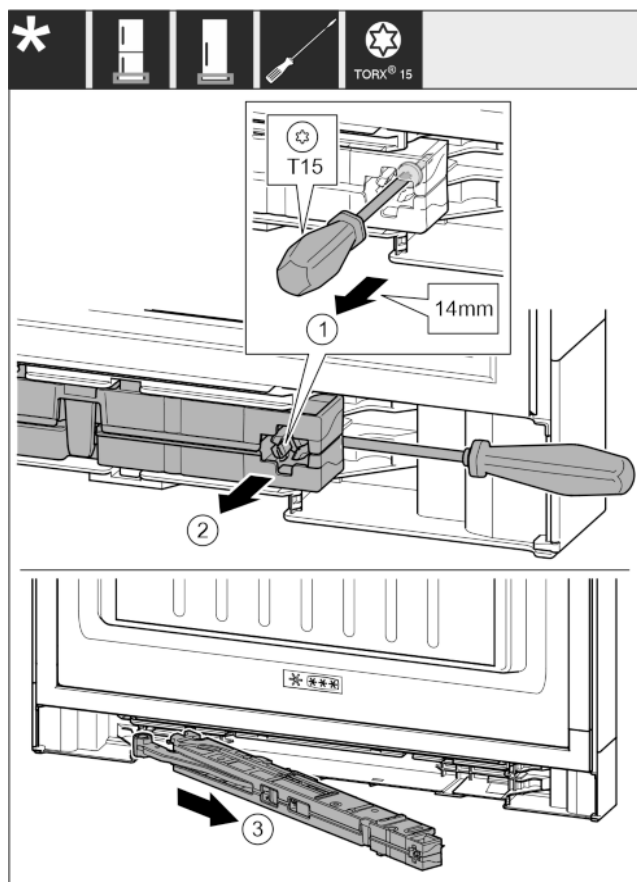

Fig. 14
- Undo the soft stop mechanism screw with a T15 screwdriver approx. 14 mm. Fig. 14 (1)
- Insert the screwdriver on the handle side behind the soft stop mechanism. Turn the unit forwards. Fig. 14 (2)
- Pull out the unit. Fig. 14 (3)